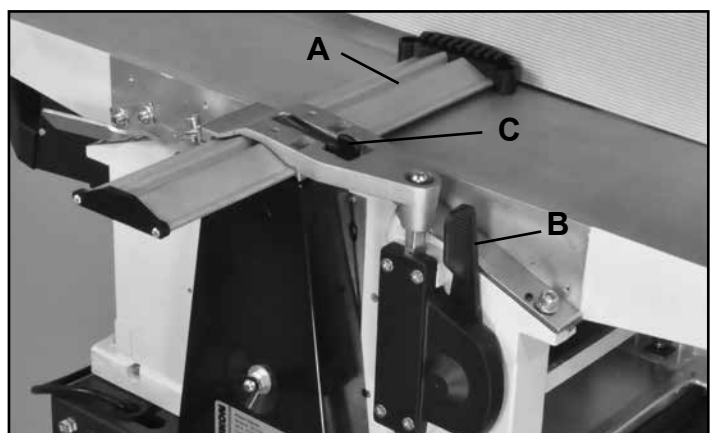

FIG. 26
- Adjust the height of the cutterhead guard, with the Guard Setting Lever (#226, FIG. 26, B).
- Adjust and lock the Guard (B) in place over the cutterhead knives with the Clamping Lever (#208, C). The guard's forward plastic, spring end will exert slight pressure against work pieces when used in jointing mode.